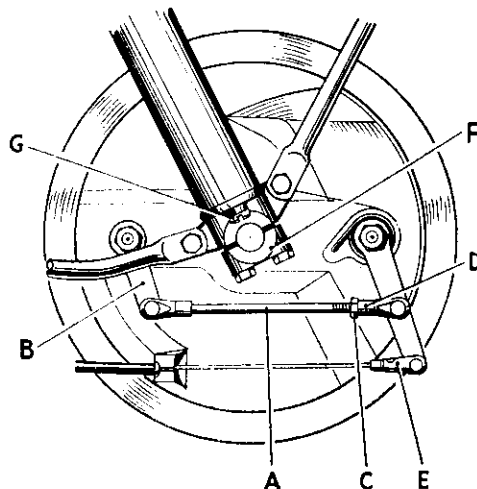

FIG. 26. *Front wheel mounting, showing the brake linkage. (Lightning, Firebird Scrambler and Spitfire Mk. IV).*
Remove the link rod (A) Fig. 26 coupling the two brake cam levers, for which purpose the pivot pins and split pins must first be extracted.
Uncouple the brake cable by withdrawing the pivot pin and split pin from the clevis (E) at the cam lever (Fig. 26).